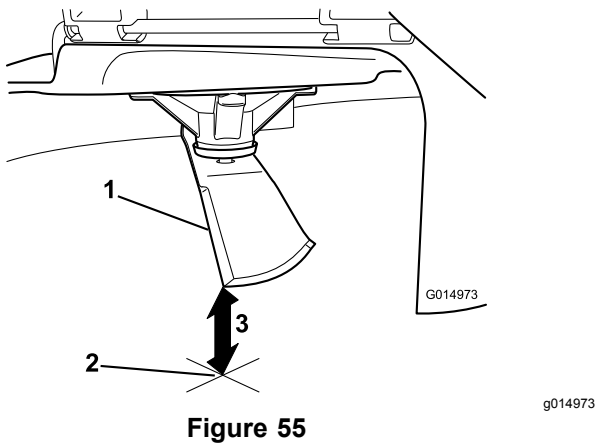

**Figure 54**
4. Rotate the same blade 180 degrees so that the opposing cutting edge is now in the same position (Figure 54).